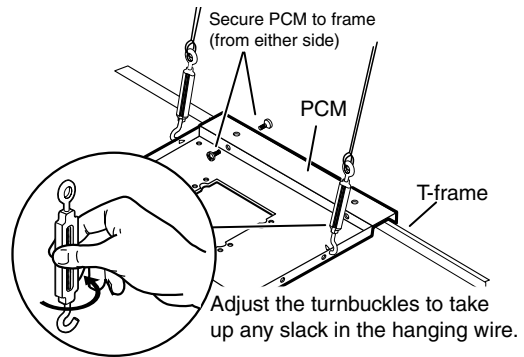

Figure 7 — Adjust turnbuckles
- i. **Tighten the turnbuckles** by hand (see figure 7), and level the plate so that it just rests on the grid.